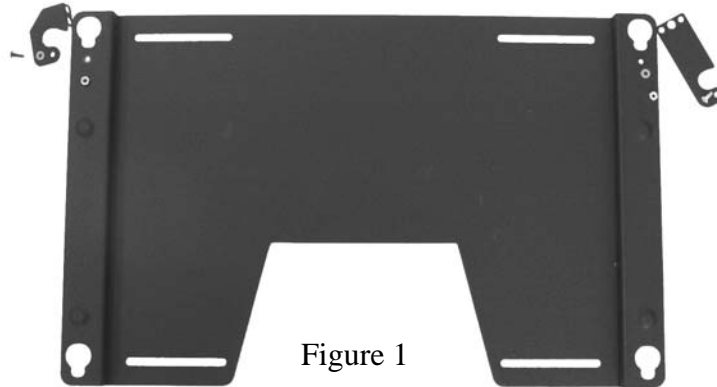

Figure 1
- (2) 10-24 Nylock Nut
**BEFORE PROCEEDING:** Unpack the carton, verify contents shown in Figure 1 and read installation instructions completely. If you are missing any of the listed components, please contact Customer Service at 1-800-582-6480 or 952-582-6480.